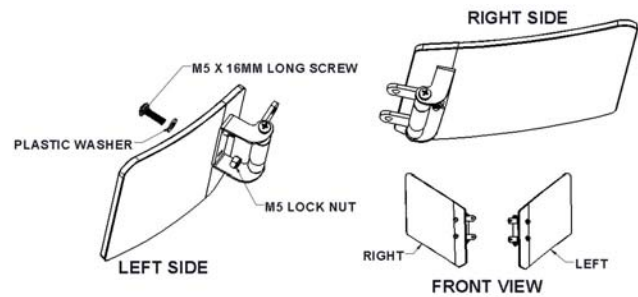

FIG. 2
2. MOUNT THE DEFLECTOR PANELS TO EACH OF THE HARDWARE ASSEMBLIES AS SHOWN IN FIG. 2 BELOW. USE A M5 X 16MM SCREW WITH A PLASTIC WASHER ON THE OUTSIDE WITH A LOCK NUT ON THE INSIDE. BE CAREFUL TO NOT OVER TIGHTEN SCREWS.